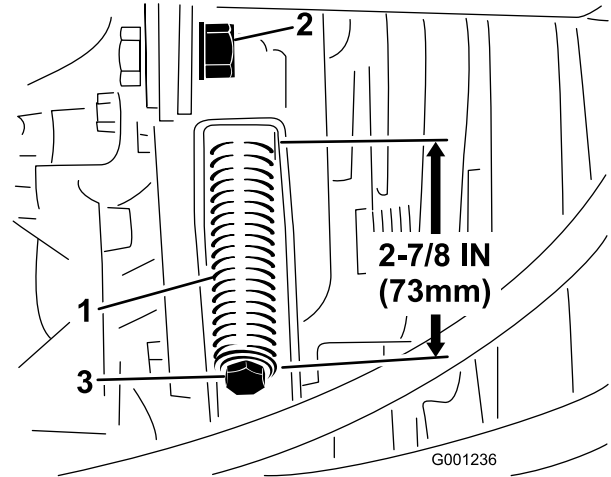

Figure 53
2. Loosen the tensioning rod jam nut (Figure 53).
3. Use a 1/2" wrench to tighten or loosen the belt tensioning spring (Figure 53). Adjust spring to a length of 2-7/8" (73 mm).
3. Using a 1/2" wrench, loosen the belt tensioning spring (Figure 53) all the way.
5. Install the new PTO belt and re-tension the pulley spring to 2-7/8" (73 mm) (Figure 53).
6. Tighten the jam nut (Figure 53) and close the hood.